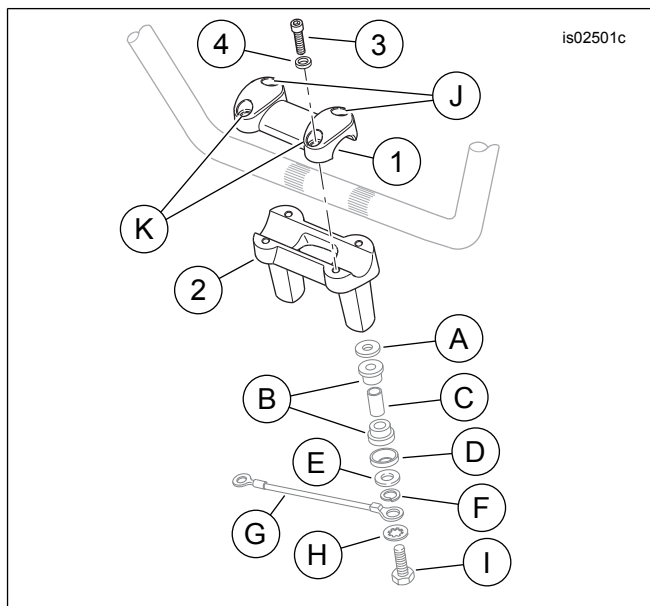

Figure 1. Service Parts, One-Piece Fat Handlebar Riser Kits
See Figure 1 and Table 1.
2. See Figure 1. Remove two riser mounting screws (I) from under the upper fork bracket. Remove the risers and hardware (A through H). Note the sequence and orientation of the hardware as it is removed and retain it for later installation. Discard the original equipment (OE) risers and riser clamp (or caps).